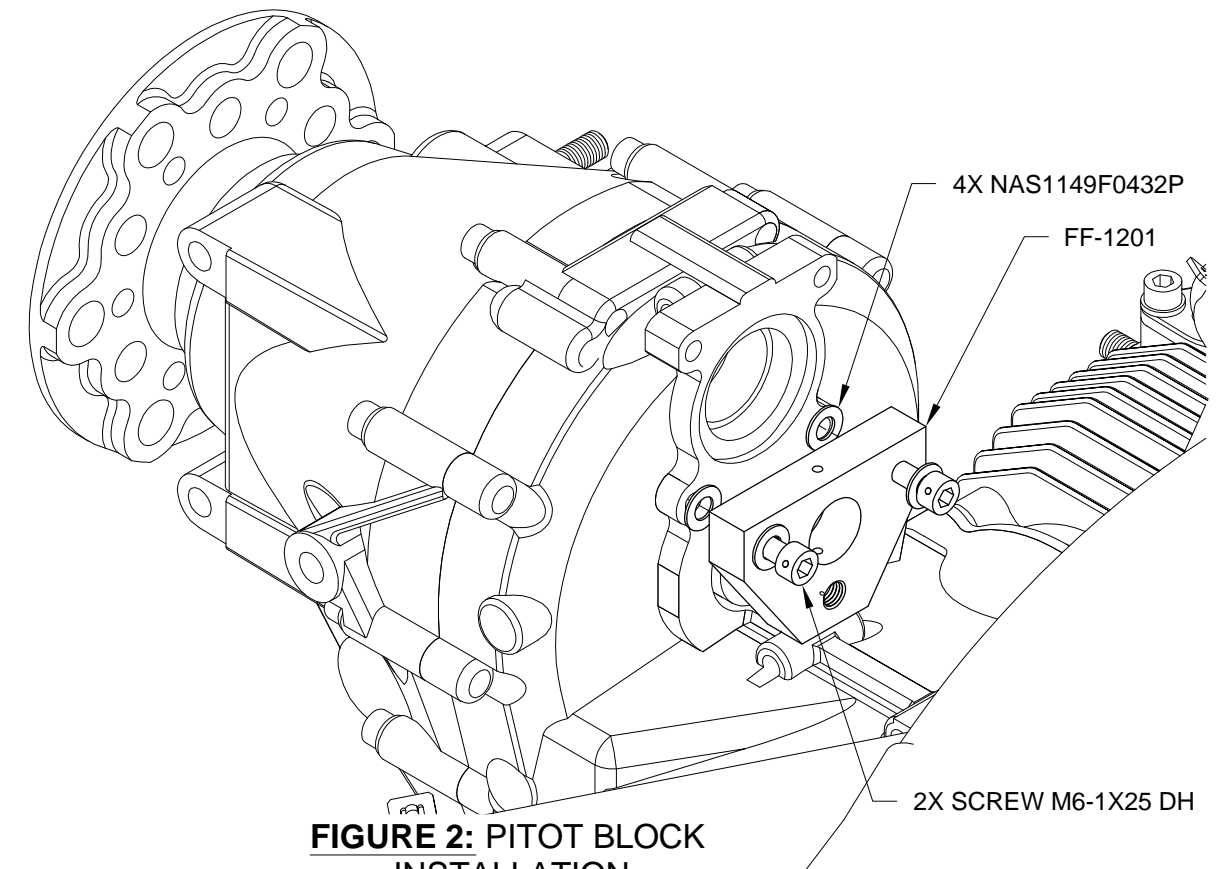
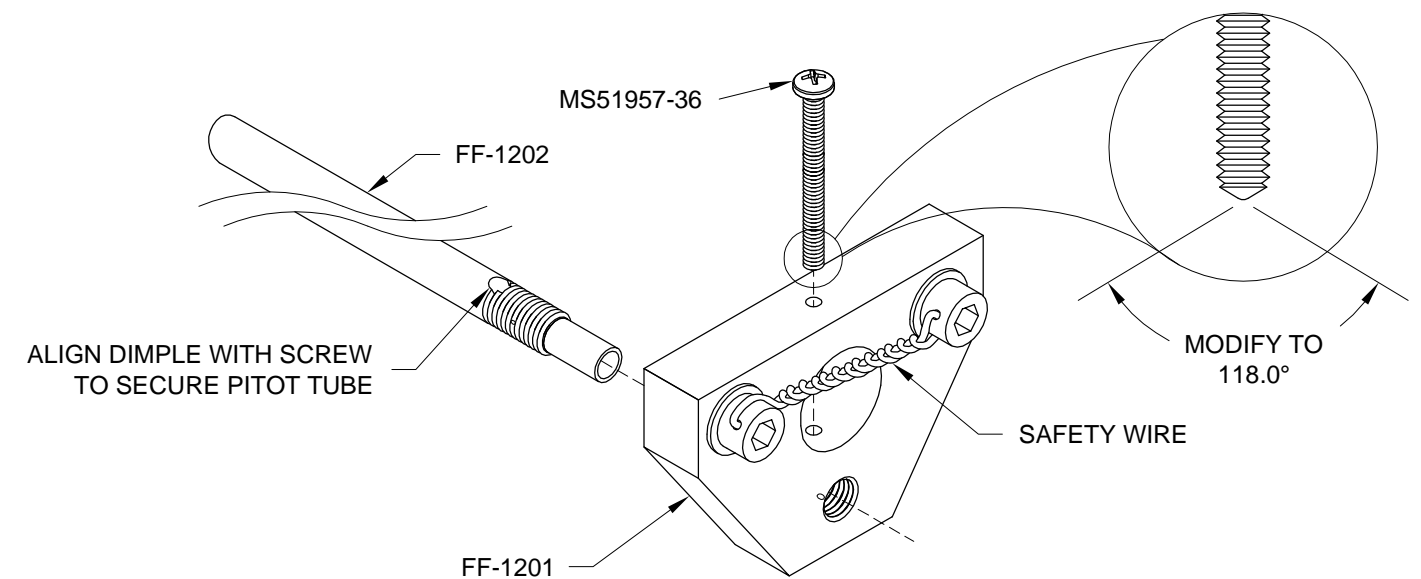

FIGURE 2: PITOT BLOCK INSTALLATION
FIGURE 3: ATTACHING THE PITOT TUBE
Step 4: Mount the FF-1201 with the hardware called out in Figure 2. The FF-1201 should be mounted with the threaded half aft. Turn the cap screws until they touch the surface of the washers, turn an additional 1/4 turn and stop. Safety wire the cap screws together as shown in Figure 3.
Step 5: Modify the end of the MS51957-36 screw to be pointed as shown in the detail view of Figure 3. A belt sander works well here.
Step 6: Insert the MS51957-36 shown in Figure 3 to "tap" the #36 hole in the FF-1201. Remove the screw and insert the FF-1202 through the prop shaft (not shown) and into the FF-1201. Turn the FF-1202 until the marks made on the FF-1202 and FF-1201 align. Insert the MS51957-36 as shown in Figure 3 and tighten by hand until it just bottoms on the FF-1202. Check that the front of the FF-1202 is properly oriented. The head of the MS51957-36 will not be in contact with the pitot block.